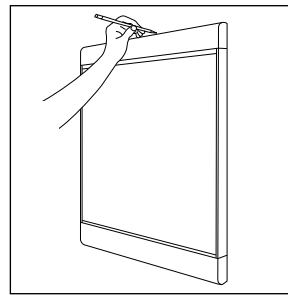

Fig. 1
1. After selecting mounting location, determine where the top of the unit should be positioned and mark a line with light pencil (Fig. 1) For comfortable viewing and servicing, normally the vertical center of the module should be approximately 60" from the finished floor.